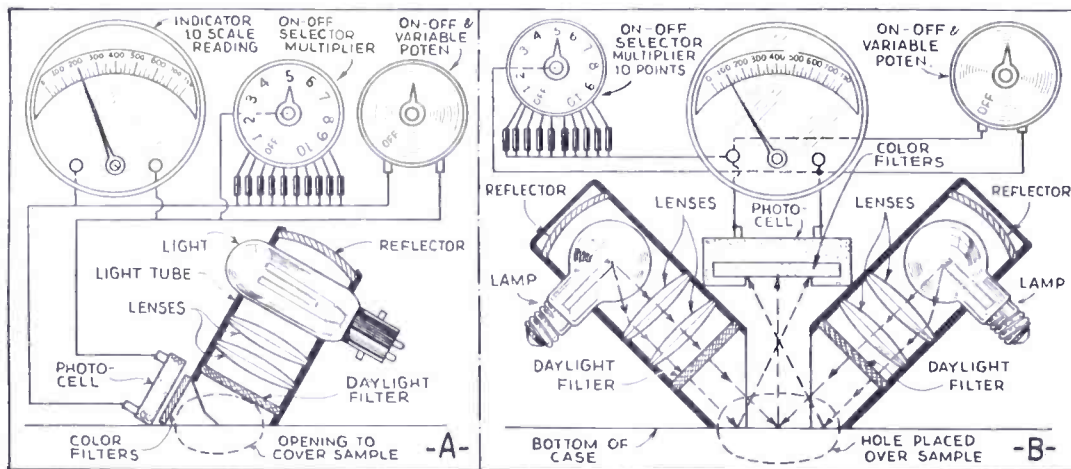

Fig. 1. At A, is shown a set-up for dull-surfaced, and at B, glossy-surfaced, materials.
**W**HITE is simply "white" to most people, but to the *colorimeter* developed by the writers and here shown pictorially (Fig. A) and diagrammatically (Fig. 1), it is a veritable rainbow—a mixture of the proper percentages of the red, green and blue pri-